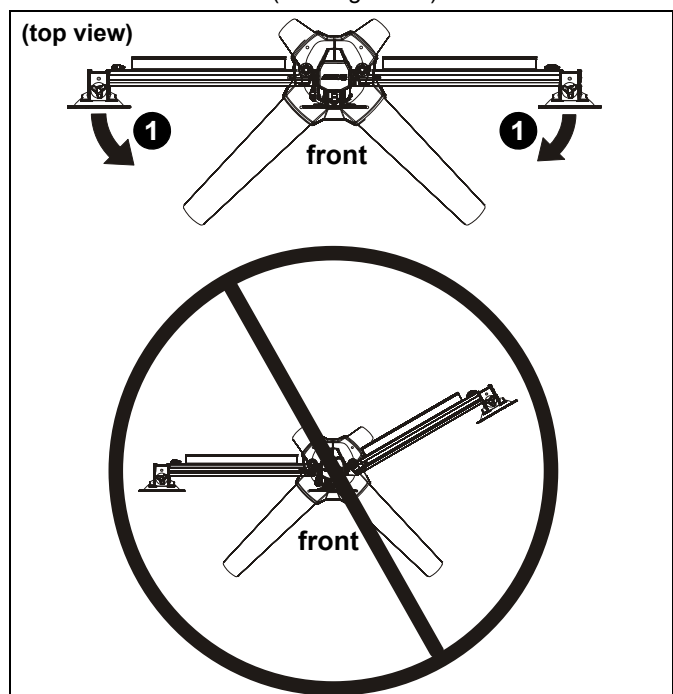

Figure 20
1. Array arms may pivot toward the front of mount up to 15° per arm. (See Figure 20)
WARNING: Pivoting array arms toward the back of mount may cause K3 Series mount to tip over causing serious personal injury or damage to equipment! Do not pivot arms toward back of mount! (See Figure 20)